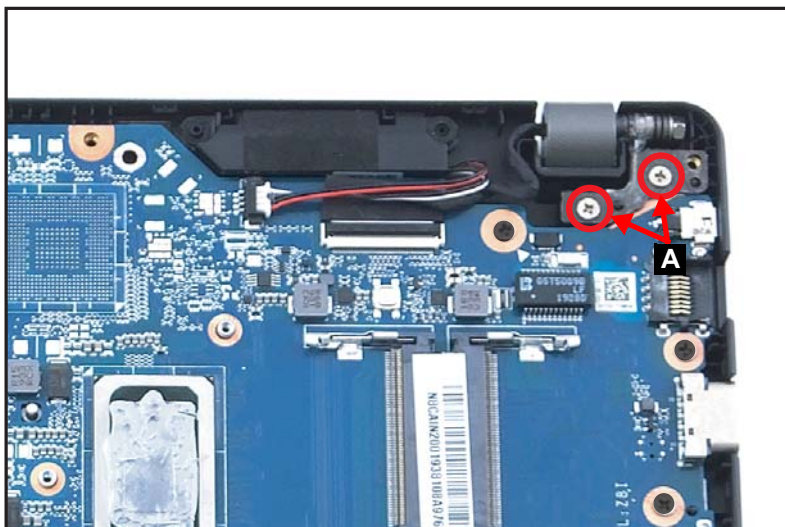

Figure 1-42. Mainboard Removal
1. Remove two (2) screws (A) securing the right side LCD hinge in place (Figure 1-42).